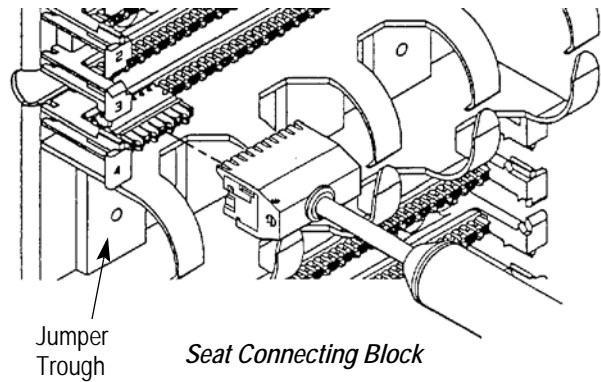

Figure 5
1. After all index strips have been wired and trimmed, orient first connecting block at left end of top row and seat using an AT&T 788J1 impact tool or equivalent. See Figure 5. Working from left to right, orient and seat each additional block in row. Complete remaining rows following same procedure.